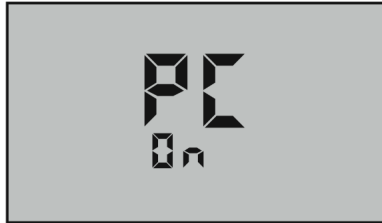

Figure 31
3. Then press the  key. “PC On” will be displayed (see Figure 31).